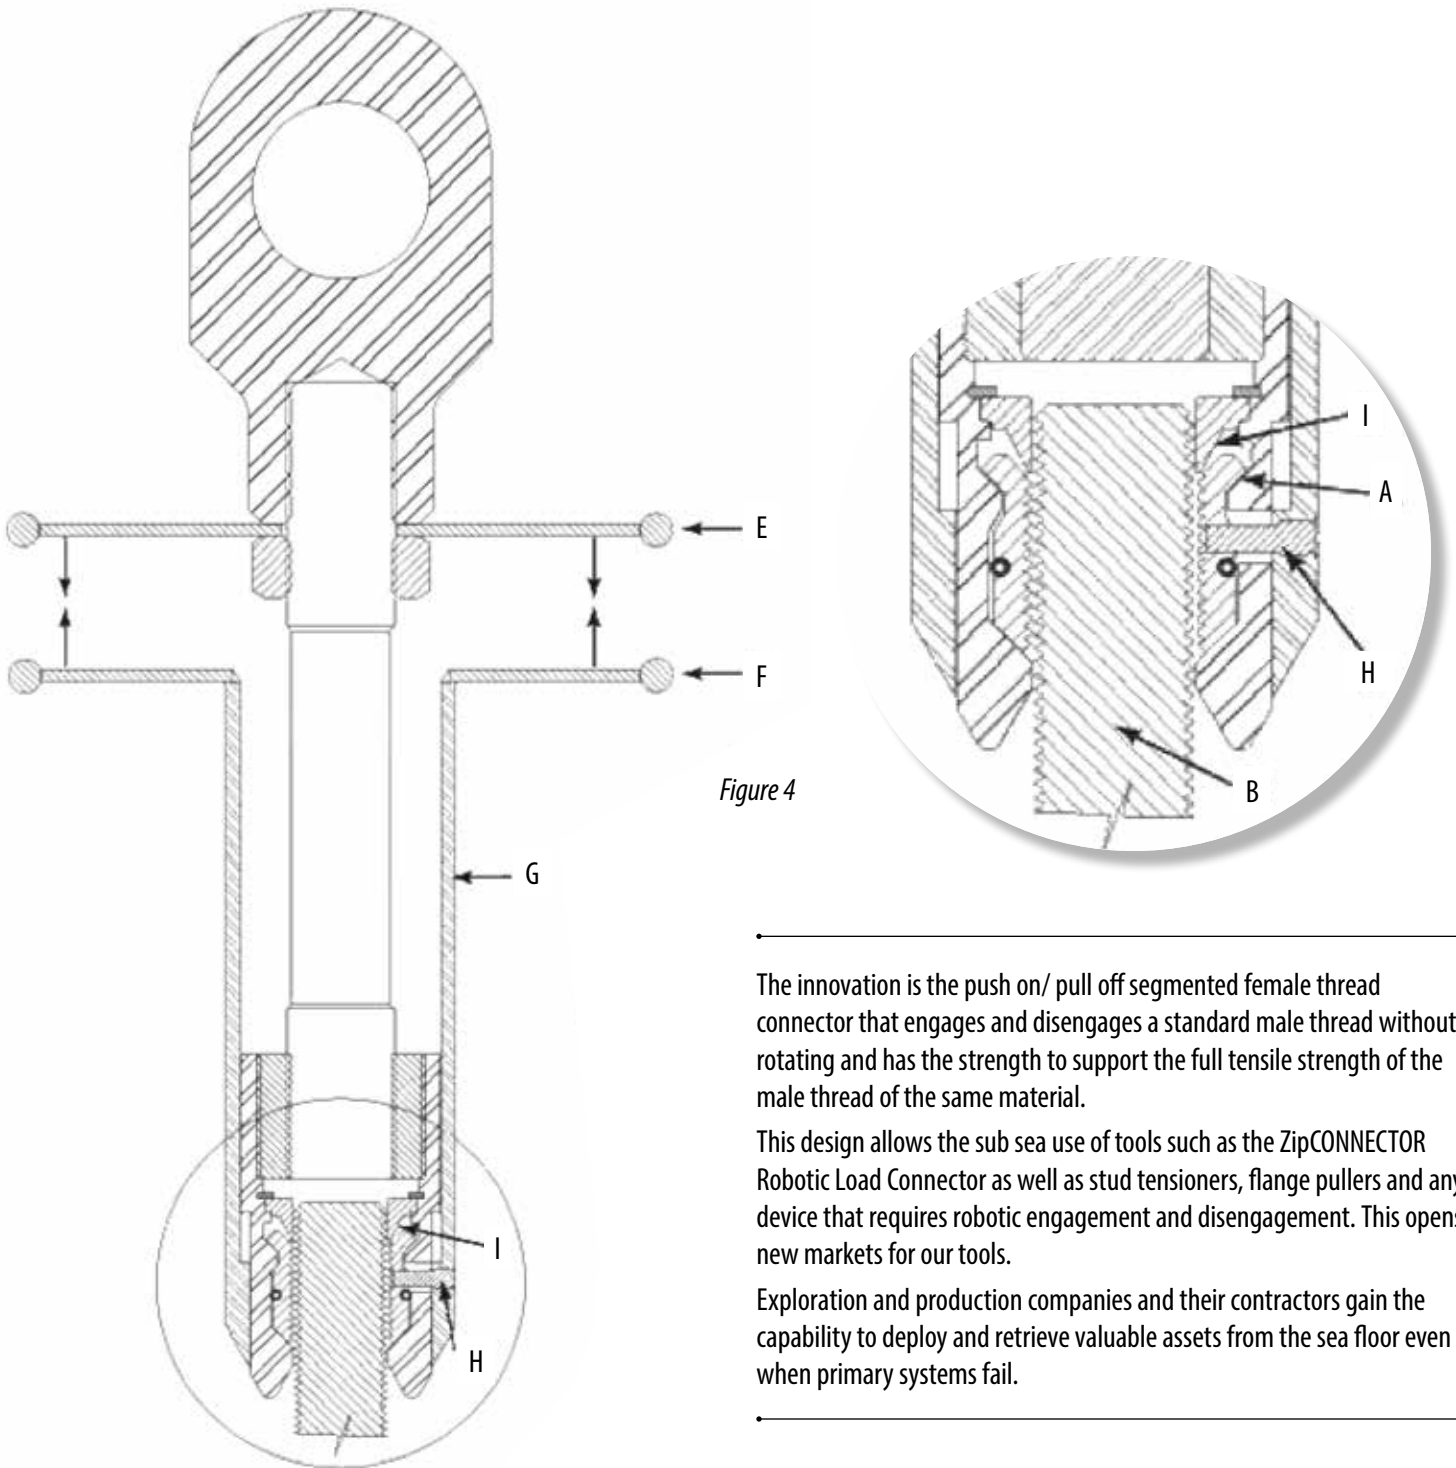

Figure 4
Figure 4 shows the ZipCONNECTOR Robotic Load Connector in the open position. Plates (E) & (F) are squeezed toward each other, lifting the outer housing (G) and causing the pins (H) to lift the segments (A) into contact with the taper on the top cap (I). This motion opens the segments (A) and allows disengagement from the threaded rod (B). The disengagement cannot happen unless the load has been set down and slack put in the line.